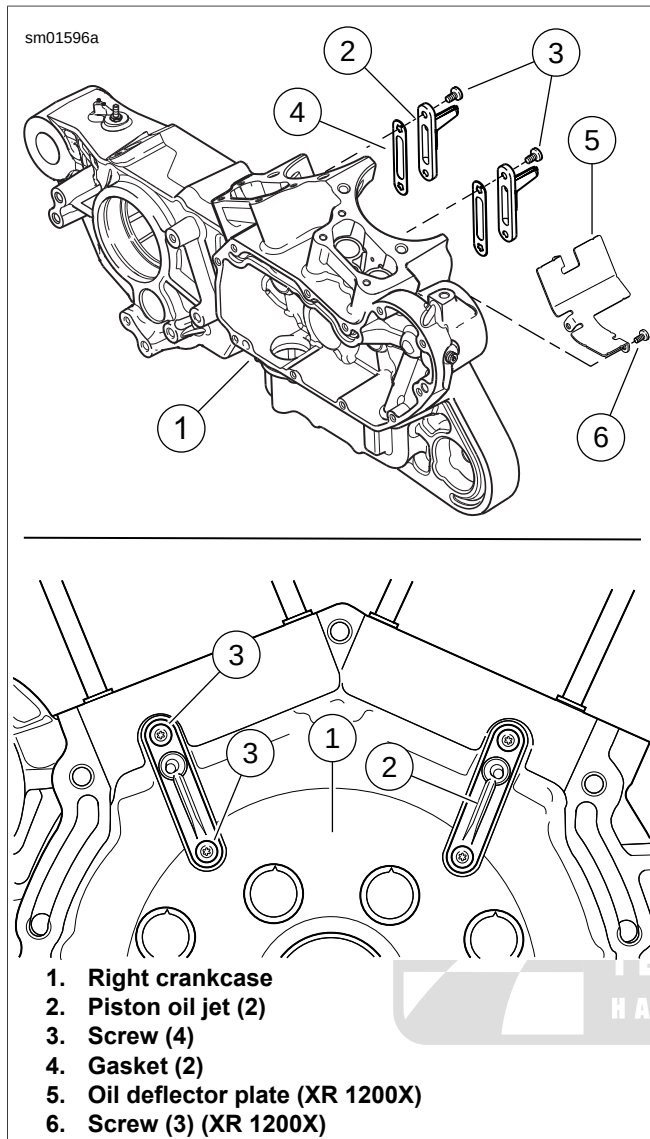

Figure 3-113. Piston Oil Jet Assemblies
1. See Figure 3-113. Remove two TORX screws (3) from each piston oil jet assembly (2) to free piston oil jets from right crankcase (1).
2. Remove piston oil jets and gaskets (4) from right crankcase. Discard gaskets.
3. **XR 1200X:** Remove three screws (6) and oil deflector plate (5).